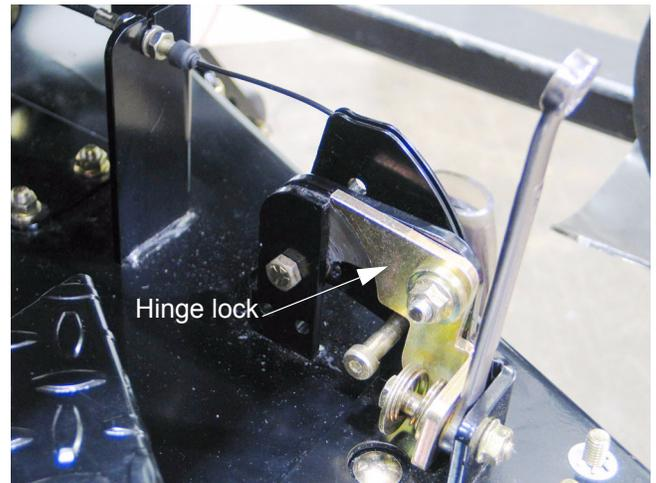

Figure 7.5
- 7.5. Block all four hinge locks into the unlatched position using extra wrenches. See Figure 7.5.